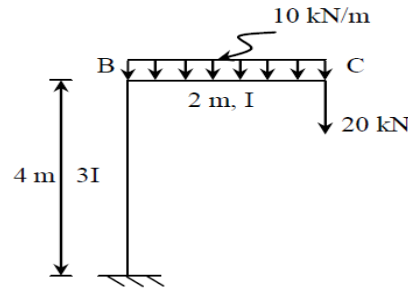

Fig. 7(b)
b. Find the vertical deflection at point C for the frame shown in Fig. 7(b) using Castigliano's method. Assume $E = 2 \times 10^5 \text{ N/mm}^2$ and $I = 2 \times 10^8 \text{ mm}^4$. 15 (2 : 4 : 1.3.1)